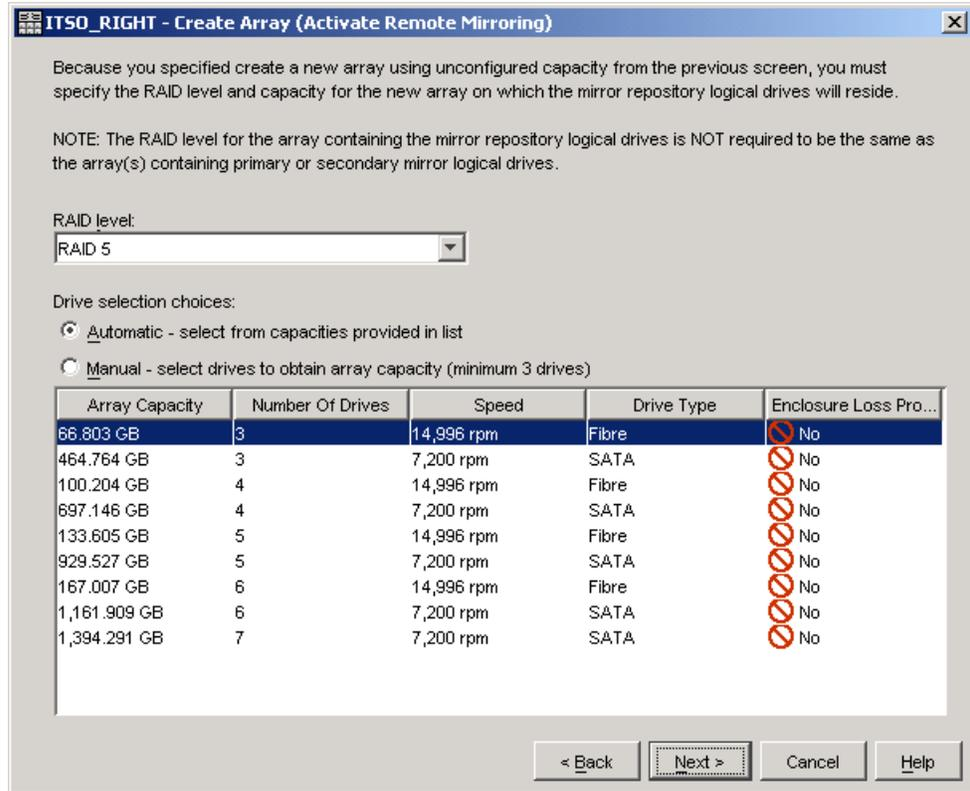

Figure 8-23 Activate Remote Mirroring wizard: Create new array
- An unconfigured array: Click **Next** to proceed to the create array window (Figure 8-23).